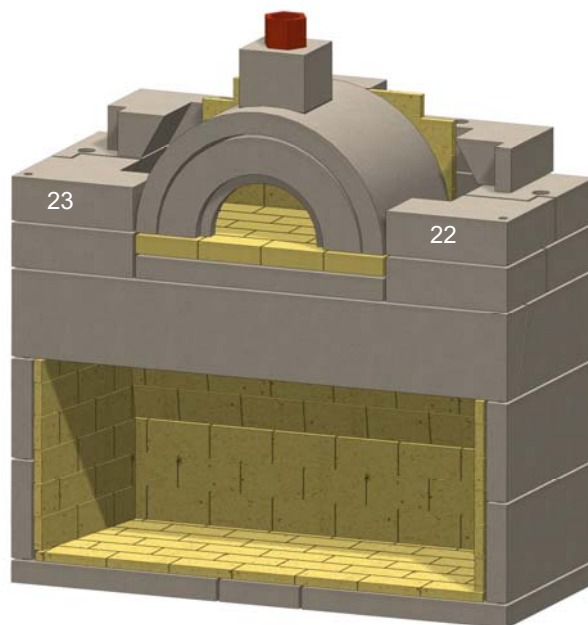

Figure 30. Lower Mid Front Throat Pieces
U. Install the lower mid left and right front throat pieces (22 & 23). See Figure 30.